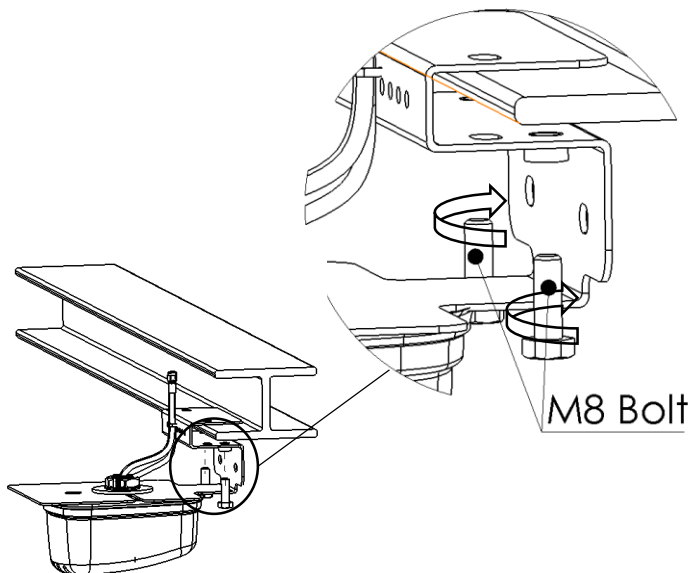

Figure 5.
3. Bracket comments assemble with I-beam as below figure 5.